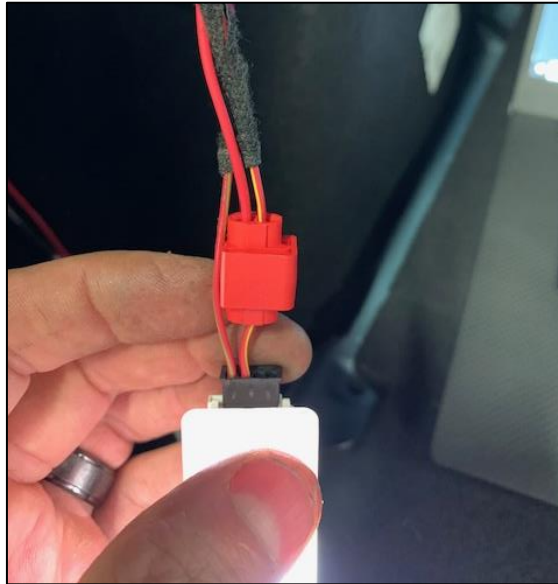

Figure 21: Power Connection
11) Attaching to power: Figure 21.